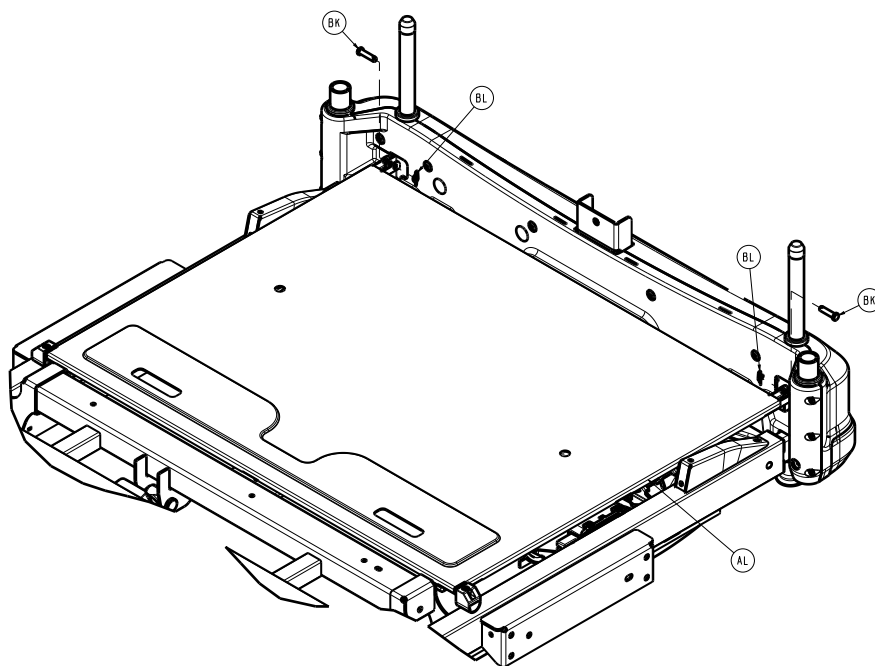

Figure 9 – Replacing the cover
4. Using needle nose pliers, remove the two rue clips (BL) and clevis pins (BK) that secure the bed extender pan (AL) to the foot frame (Figure 9). Save the rue clips and clevis pins.